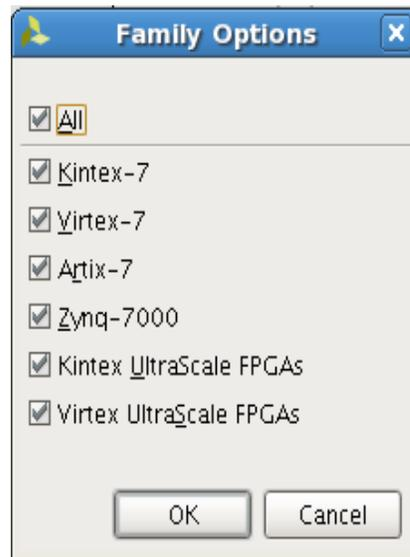

Figure 8-6: Family Options
- **Family:** Compiles selected libraries to the specified device family. All device families are generated by default. See Figure 8-6.